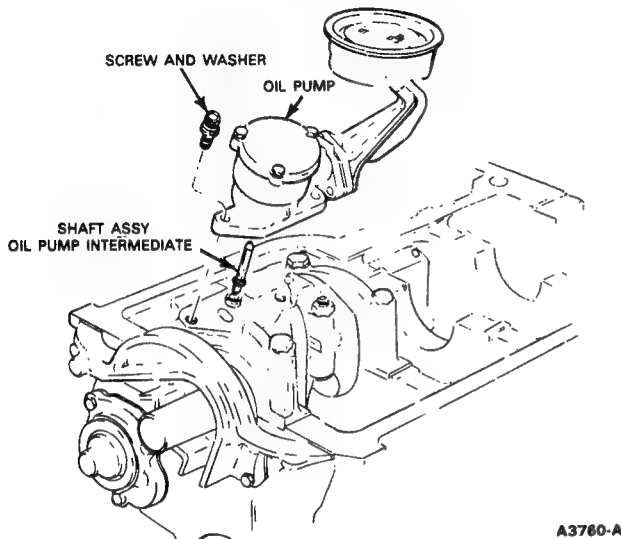

FIG. 49 Oil Pump Installation
3. Remove the pump and shaft, Fig. 49.